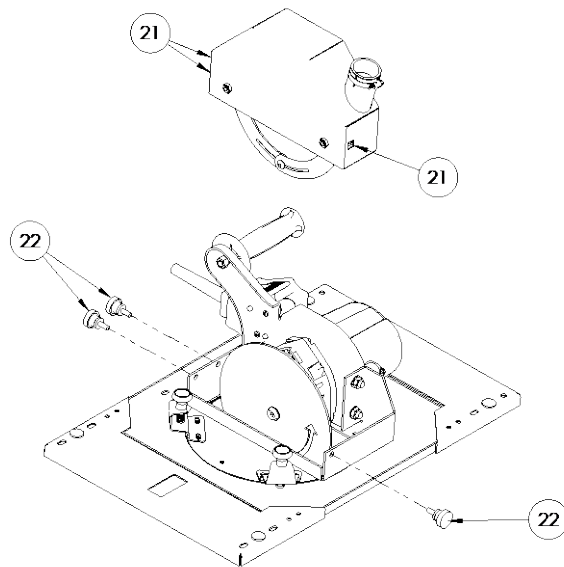

Figure 28: Removing/Installing the Blade Guard (C and H Series Models)
The blade guard (Fig. 28 & 29, #21) is attached to the carriage with torque knobs (Fig. 28 & 29, #22). Remove the torque knobs to remove the guard. Be sure to leave the rubber washers on the torque knobs to prevent the knobs from slipping.
Always install the blade guard before operating the saw (Fig.28 & 29 #21).
2. Remove the blade guard see **“Removing and Installing the Blade Guard”** and (Fig. 28 & 29, #21).